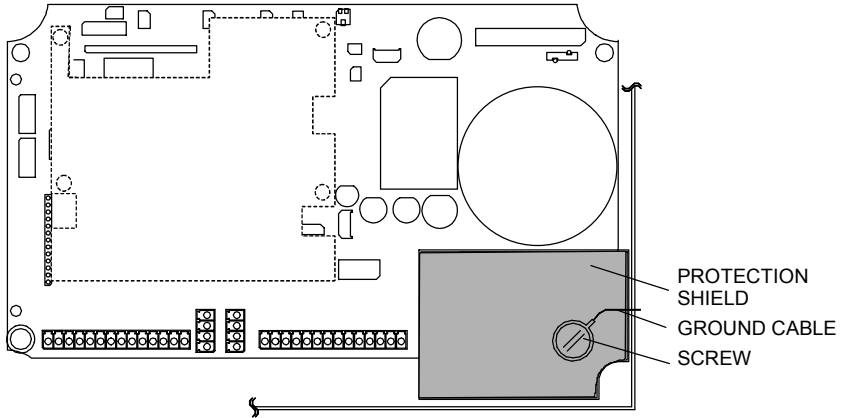

Figure 37 - Protection shield position
- 1) Unscrew the screw on the protection shield indicated in Figure 37, paying attention to the cable which is connected to the electrical ground.